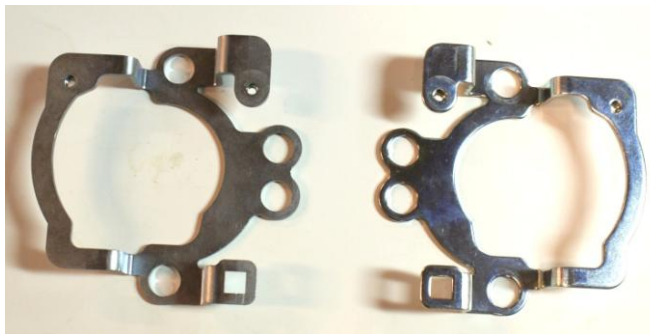

Figure 1
5. Locate right and left mounting brackets. Markings can be found on the back of bracket, "L" left and "R" right. Figure 1.